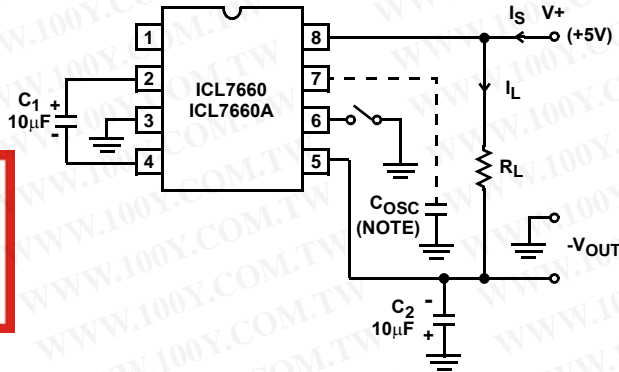

FIGURE 11. ICL7660, ICL7660A TEST CIRCUIT
Electrical Specifications ICL7660 and ICL7660A, V+ = 5V, T_A = 25°C, C_{OSC} = 0, Test Circuit Figure 11 Unless Otherwise Specified
ICL7660A, V+ = 3V, T_A = 25°C, OSC = Free running, Test Circuit Figure 11, Unless Otherwise Specified
Electrical Specifications ICL7660 and ICL7660A, $V_+ = 5V$, $T_A = 25^\circ C$, $C_{OSC} = 0$, Test Circuit Figure 11
Typical Performance Curves (Test Circuit of Figure 11)
Typical Performance Curves (Test Circuit of Figure 11) (Continued)
- These curves include in the supply current that current fed directly into the load R_L from the $V+$ (See Figure 11). Thus, approximately half the supply current goes directly to the positive side of the load, and the other half, through the ICL7660/ICL7660A, to the negative side of the load. Ideally, $V_{OUT} \approx 2V_{IN}$, $I_S \approx 2I_L$, so $V_{IN} \times I_S \approx V_{OUT} \times I_L$.